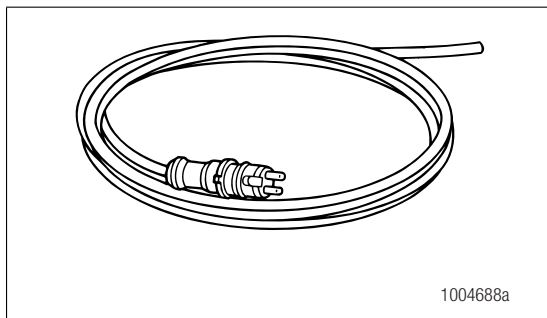

Figure 1.8
- Two-wire cable with molded-on connector. Figure 1.8.